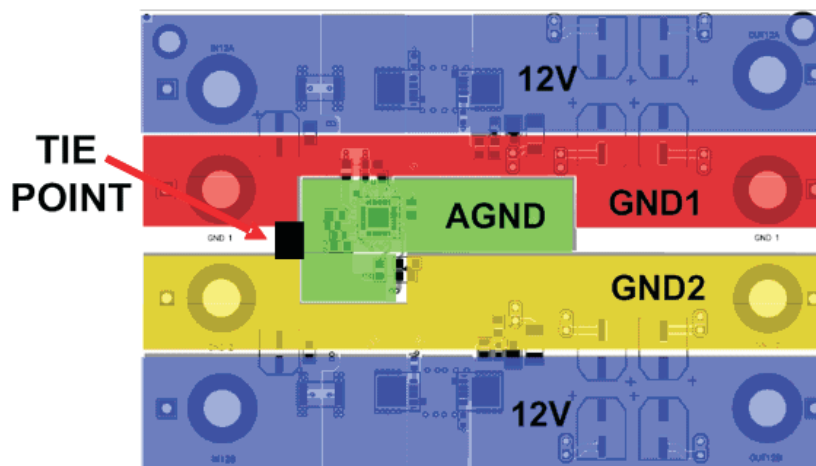

Figure 26.
7. The board should use a single point ground scheme. The current return path for both channels should be isolated from each other as much as possible and tie together at a single point. This helps to reduce ground bounce and false turn offs in one channel when there is a fault in the other channel. Also, sensitive analog grounds (such as the ground connections of R_{MONX} and C_{TX}) should be run separate from the power path grounds. This analog ground must also tie to the two power path grounds at a single point. Figure 26 shows the top layer routing of the TPS2456 EVM which uses a single point ground scheme. Each major power path, the analog ground, and the single point tying them together is highlighted in the figure.